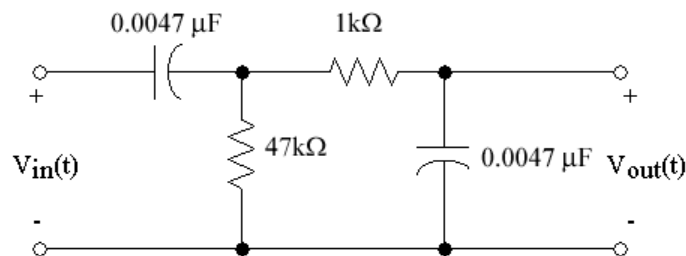
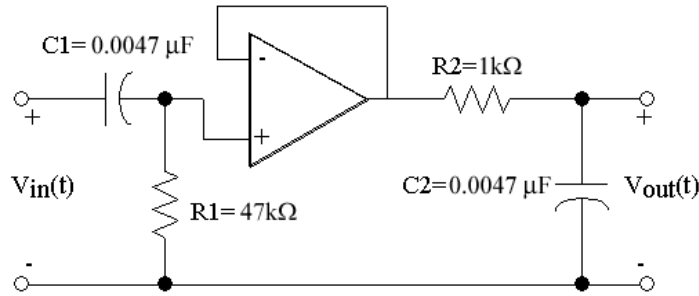

Figure 1. Band pass filter.
Figure 2. Buffered Band pass filter
You should have built and measured the performance of a band pass filter that consisted of a high pass filter in series with a low pass filter, as shown in Figure 1, in the previous lab. The frequency response for this filter is significantly different from a simple sum of the separate filter responses since the second circuit loads the first. One of the great applications of the operational amplifier is to use an op amp buffer amplifier to isolate two circuits so that the second is not loaded by the first. In this lab you will examine a bandpass filter where the two filter sections are isolated by inserting an op amp buffer, as shown in Figure 2.
The transfer function, $H(j\omega)$, for the buffered band pass filter shown in Figure 2 can be mathematically shown to be
1. Build the circuit shown in Figure 2. Use a 741 op amp and **be sure to connect the power supply**. Use $\pm 15\text{V}$ for $\pm V_{CC}$. You should check the operational status of the 741 before using it. (The pinout diagram for the 741 is shown in Figure 7.)